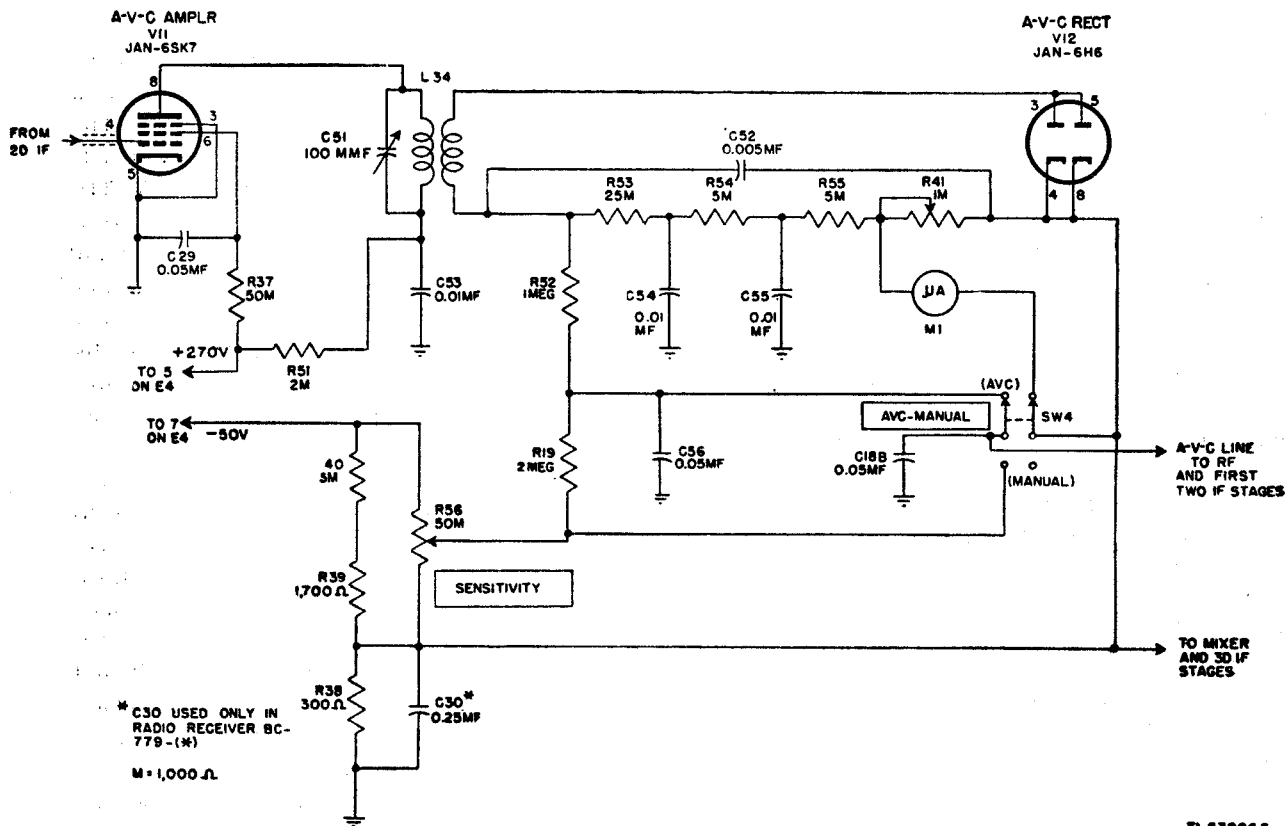

Figure 31. Radio Receiver BC-779-B, functional diagram of a-v-c stages.
a. *MIXER TUBE JAN-6L7.* For simplicity, capacitor C71, main tuning ganged capacitor C1C, and band spread ganged capacitor C2C are represented as a single variable capacitor C across the inductance trimmed secondary of r-f transformer L18. Signal voltages across C are applied through 600-mmf capacitor C11 to signal grid G1 (top cap) of pentagrid mixer Tube JAN-6L7. Fixed bias from the voltage divider (fig. 31) is applied through a filter circuit (10,000-ohm resistor R10 and 0.01-mf capacitor C12) and 500,000-ohm grid resistor R9 to the signal grid. Screen grid G2 and G4 (pin 4) forms a screen about injection grid G3 (pin 5), and the h-f oscillator output is coupled through 95-mmf capacitor C13 to the injection grid. Since the screen grid shields the signal and injection grids from one another, the tube electron stream is modulated independently by the r-f and oscillator signals. Heterodyne action produces sum and difference frequencies in the mixer output. The primary of transformer T1 is tuned by C21 to the 465-kc *difference* frequency to which the i-f amplifier is also tuned. The i-f voltage across the secondary winding of transformer T1 is applied to the crystal filter.
## 65. A-V-C Circuit (fig. 31)
and to the control grid (pin 4) of the a-v-c amplifier stage V11 (fig. 31). V7 and V11 have a common grid circuit, including fixed bias. The suppressor and cathode of V11 are grounded; screen voltage is applied to pin 6 through 50,000-ohm series-dropping resistor R37; and the screen is bypassed by 0.05-mf capacitor C29. Plate (pin 8) voltage is applied through 2,000-ohm filter resistor R51 and the primary of transformer L34. The primary of L34 is tuned to 465 kc by 100-mmf capacitor C51, and capacitor C53 (0.01-mf) bypasses high frequencies to ground. The transformer secondary is untuned.